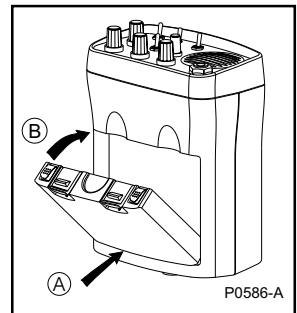

Figure 9 - Installing the Battery Pack
- b) Place the base of the battery pack at the rear of the battery compartment (A). Push the front edge of the battery pack into position (B). The two battery clips will “click” into position to hold the battery pack in place (see figure 9).
e) Place the base of the battery pack at the rear of the battery compartment (A). Push the front edge of the battery pack firmly into position (B). The two battery clips will "click" into position to securely hold your battery pack in place (see figure 9).